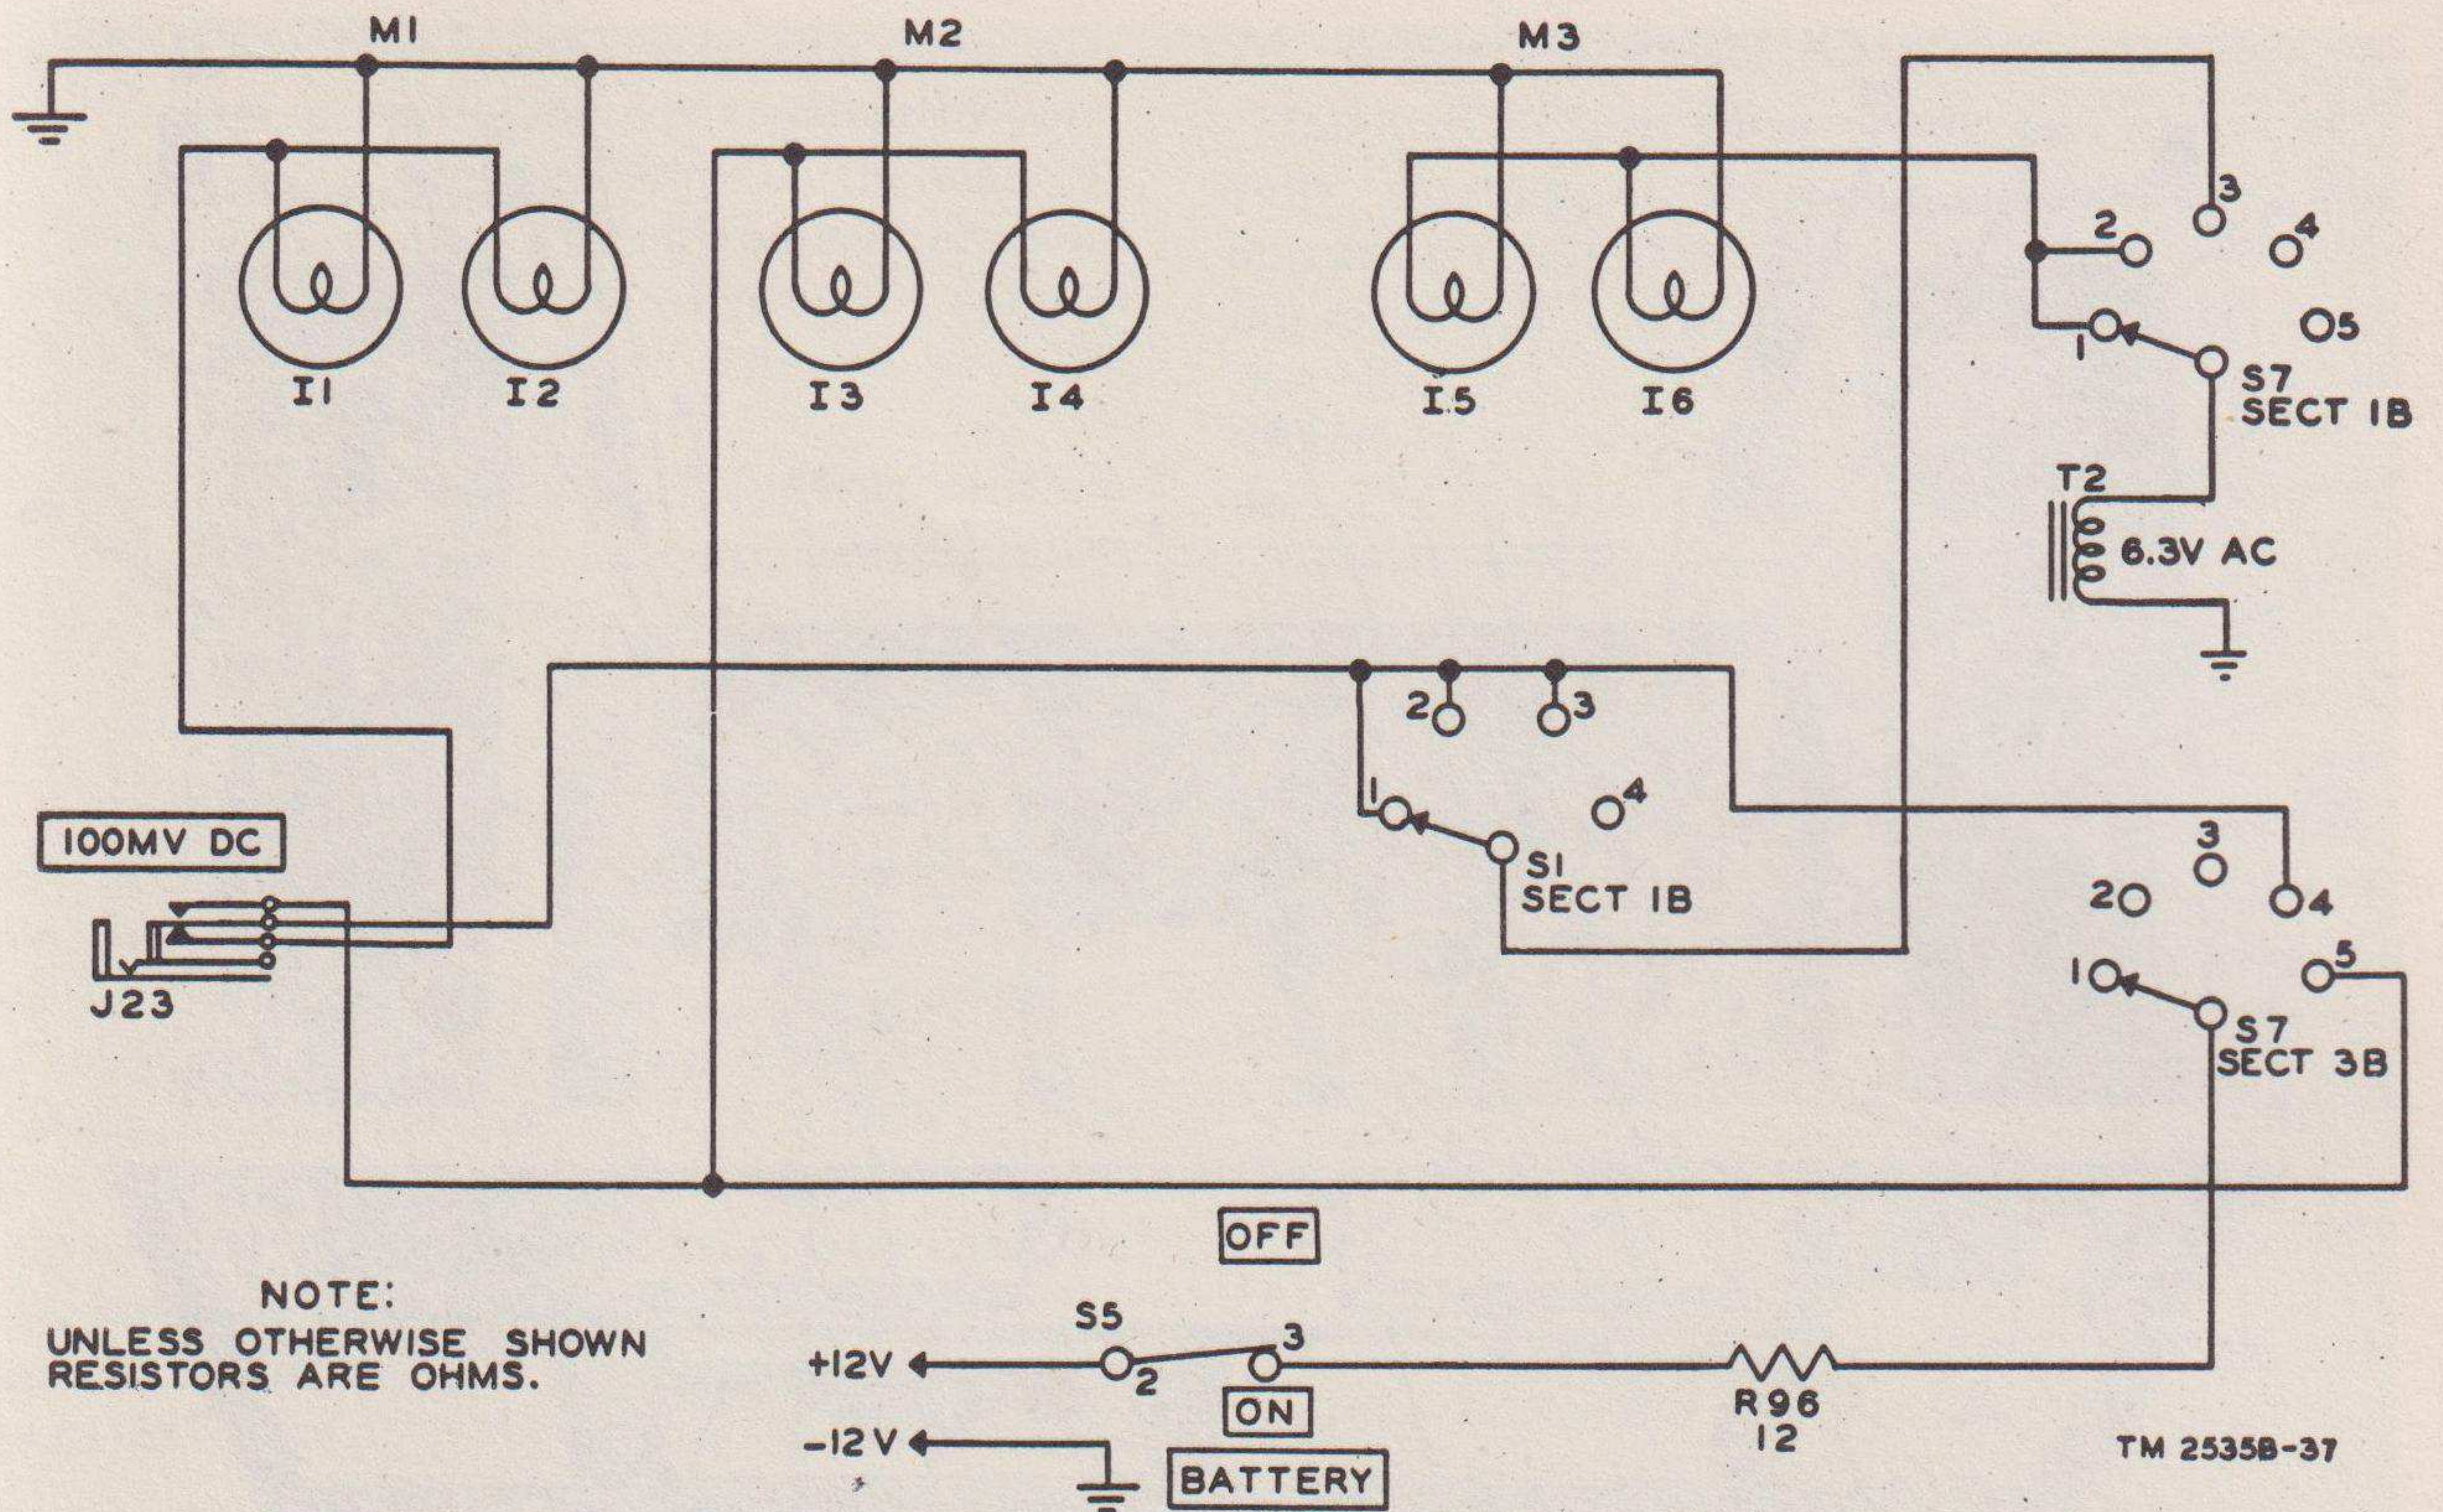

Figure 32. Meter dial illumination circuit, schematic diagram.
d. Figure 32 is a schematic diagram of the meter dial illumination circuit and shows the relationship of lamps I1 through I6 to all the meters. These lamps are incandescent lamps with bayonet-type bases. With the phenolic panel and the meter box cover plate removed, replace burned-out lamps as directed in paragraph 45b.